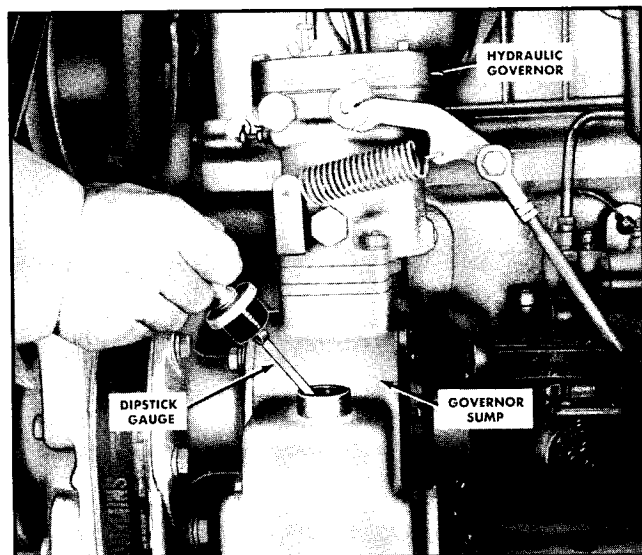

Fig. 2-2. Hydraulic governor
2. Oil level in governor sump must be at full mark on dipstick. Fig. 2-2.